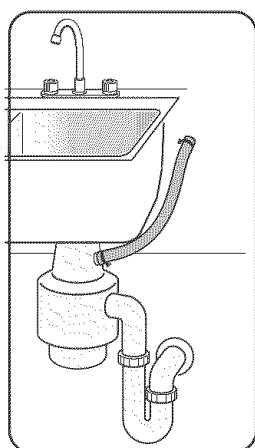

Figure 25
- 2 Directly to a disposer dishwasher drain connection, as shown in **Figure 25**.